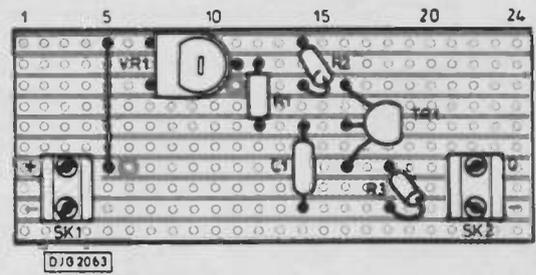

Fig. 30. (right)
14. UJT audio oscillator (Fig. 30)